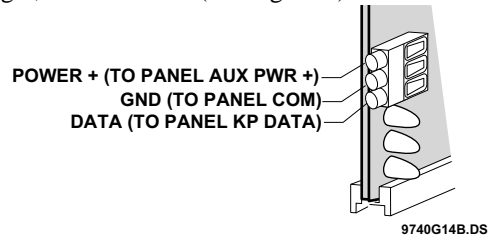

Figure 5. Wiring the Module Power and Data Terminals to the Panel Power and Data Terminals
2. Connect the module power and data terminals to the control panel power and data terminals using 22-gauge or larger, stranded wire (see Figure 5).